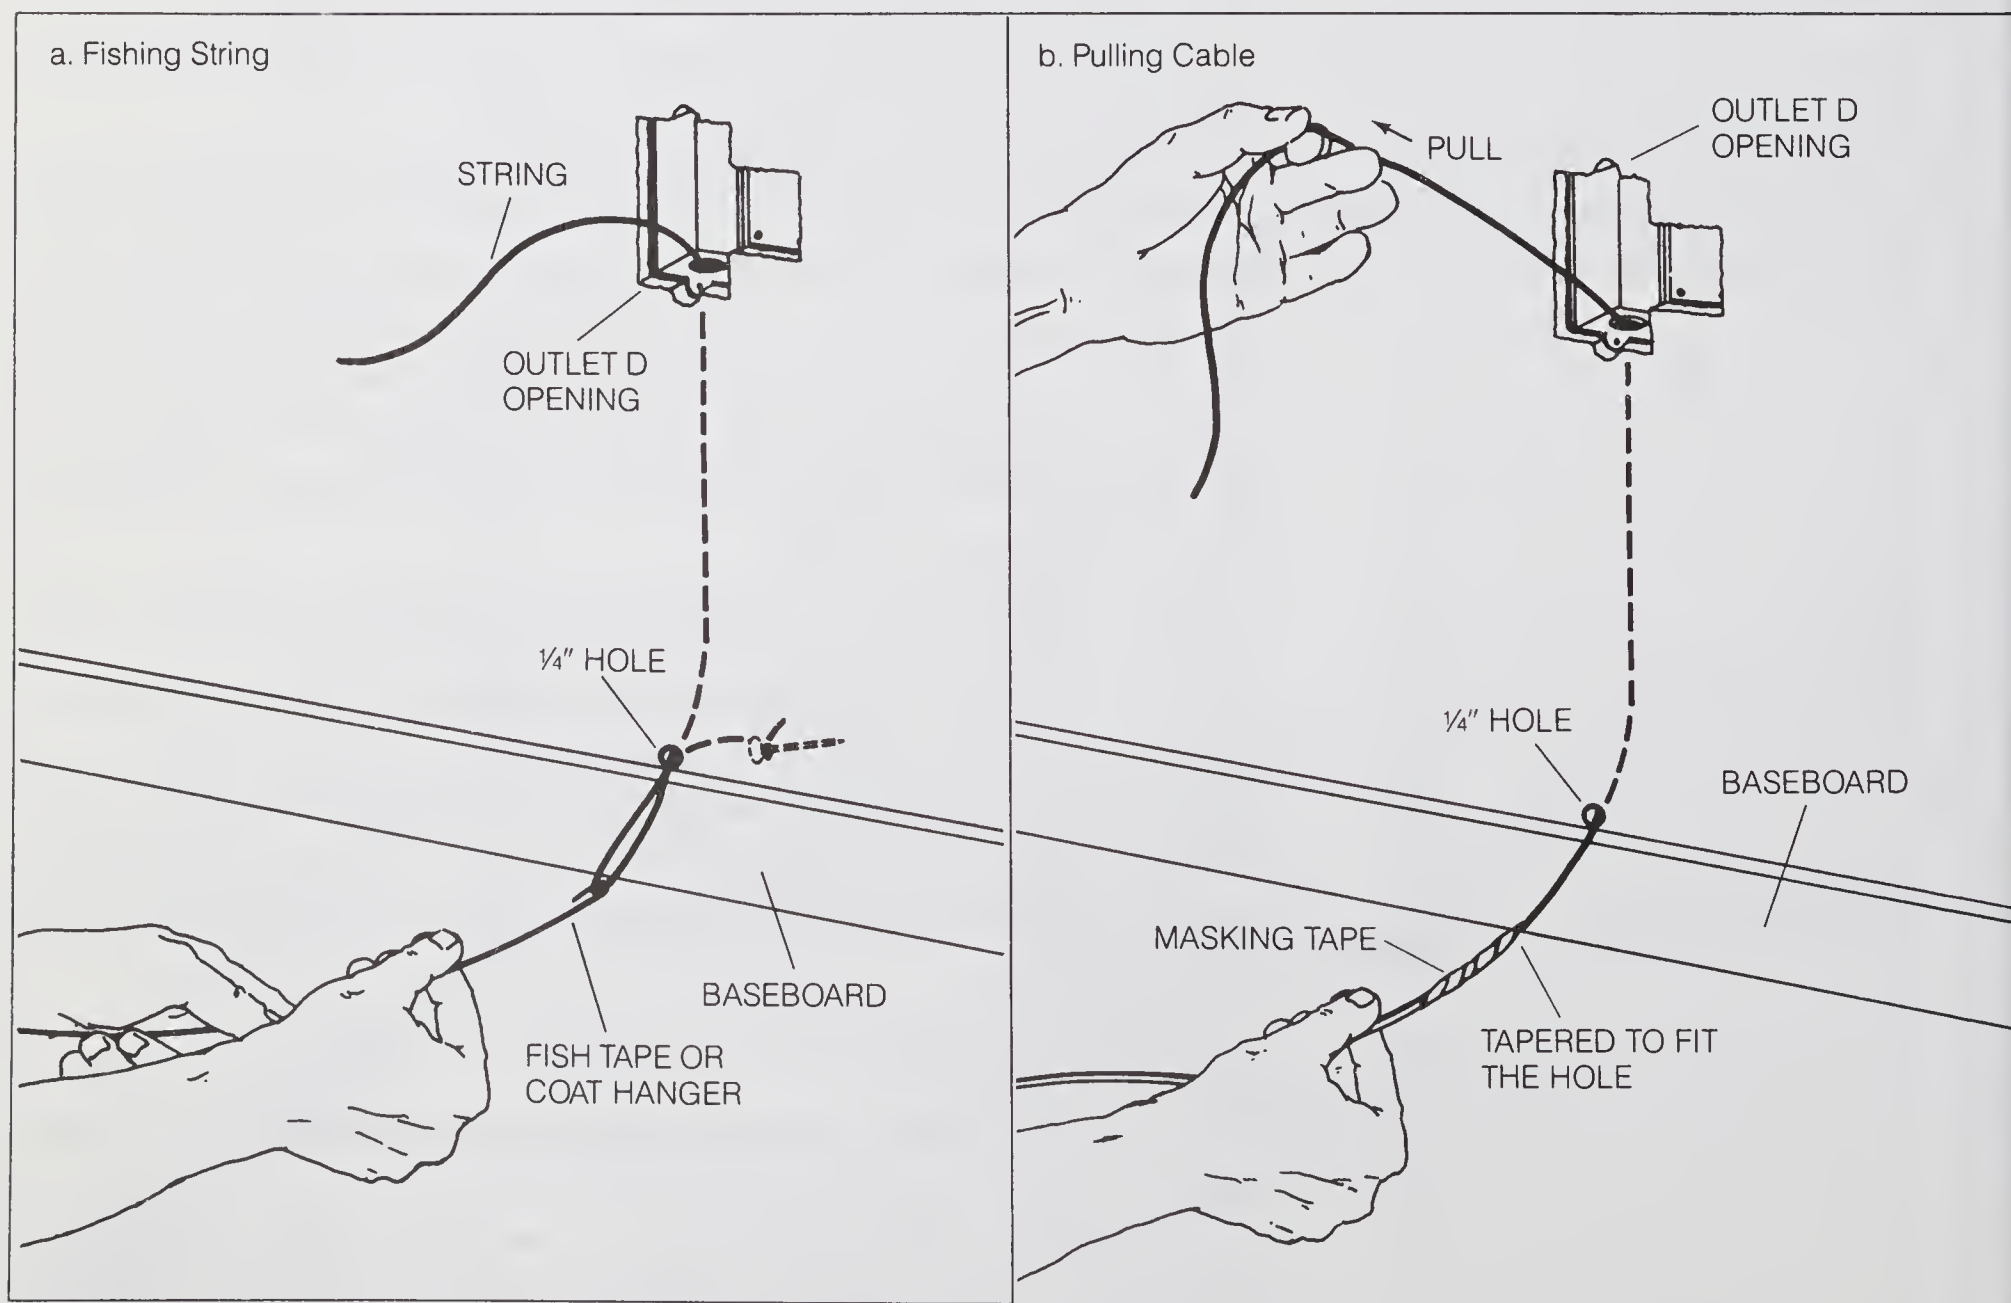

Figure 6-5.
15. Fish a string from the hole for outlet D through the $\frac{1}{4}$ " hole at the baseboard below the outlet D opening. Attach the cable and pull it up through outlet D opening (See *Figure 6-5*). Leave about 12" of cable exposed from the opening.